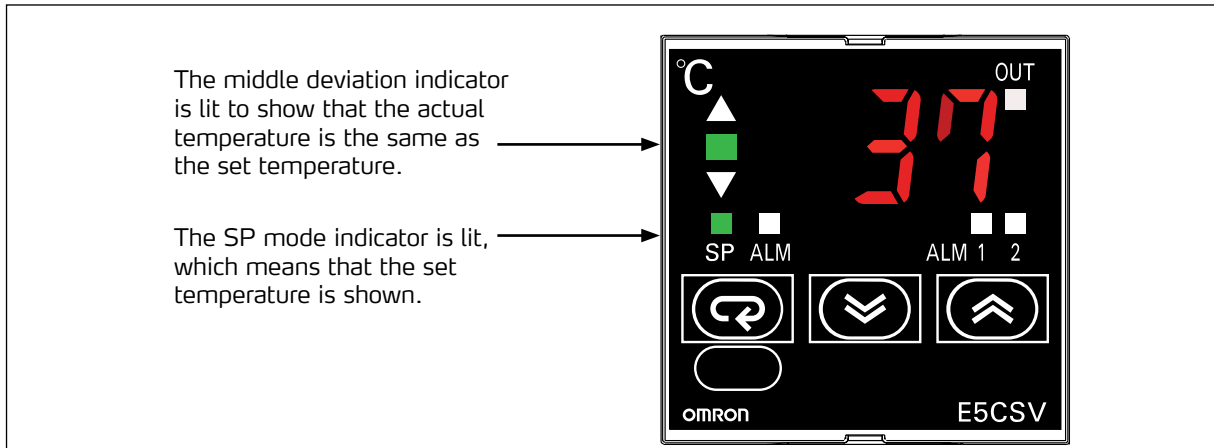

Fig. 10. The temperature control unit in SP mode where the set temperature is reached.
Fig. 10 shows an example where the actual temperature of the head is equal to the preset temperature. You can begin testing in this state.
1. Remove the front panel by inserting a 2 mm screwdriver in the two panel removal slots at the top and bottom and carefully pulling the panel out (arrow 2 in Fig. 10).
2. On the back side of the display panel, there is a switch group at the base. This is where you will find the Celsius/Fahrenheit switch (Fig. 10). By default, all these switches are pushed down in the off position. Switch number 6 at the far right controls the display of Celsius or Fahrenheit. In the down position, Celsius is displayed. To display Fahrenheit, push the number 6 switch up.